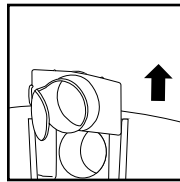

FIGURE 32
46. Remove inlet deflector from deflector guide. **FIGURE 32.**